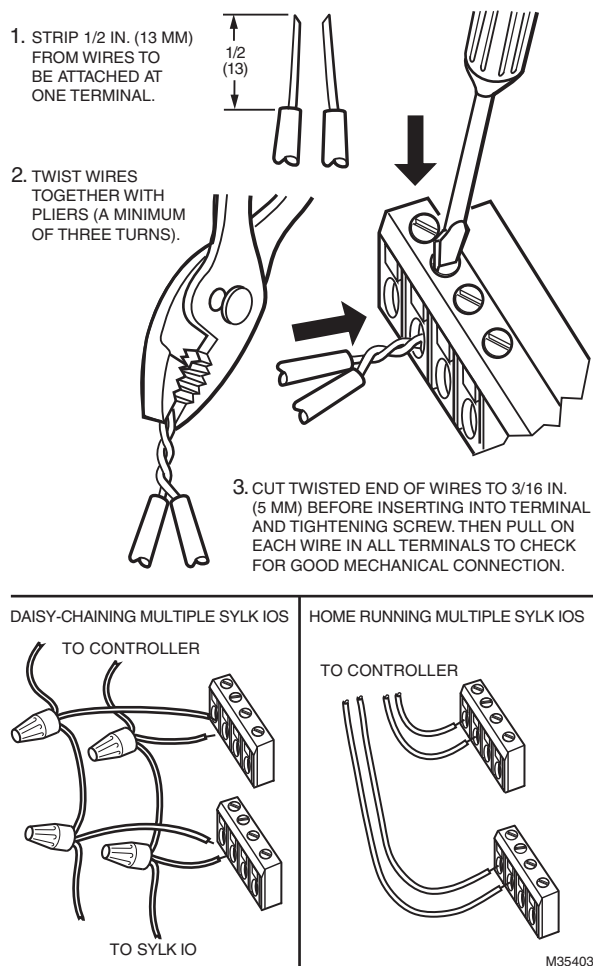

Fig. 8. Attaching two or more wires at terminal blocks.
3. If two or more wires are being inserted into one terminal location, twist the wires together a minimum of three turns before inserting them (see Fig. 8).